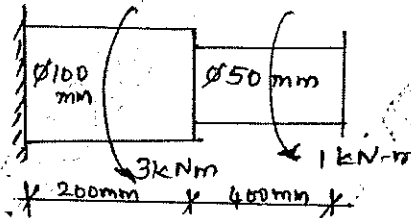

Fig.Q6(b)
- b. A solid stepped bar of circular cross section as shown in Fig.Q6(b), is subjected to a torque of 1 kN-m at its free end a torque of 3 kN-m at its change in cross-section. Determine the angle of twist in the bar. Take  $E = 2 \times 10^5 \text{ MPa}$ ,  $G = 7 \times 10^4 \text{ MPa}$ .